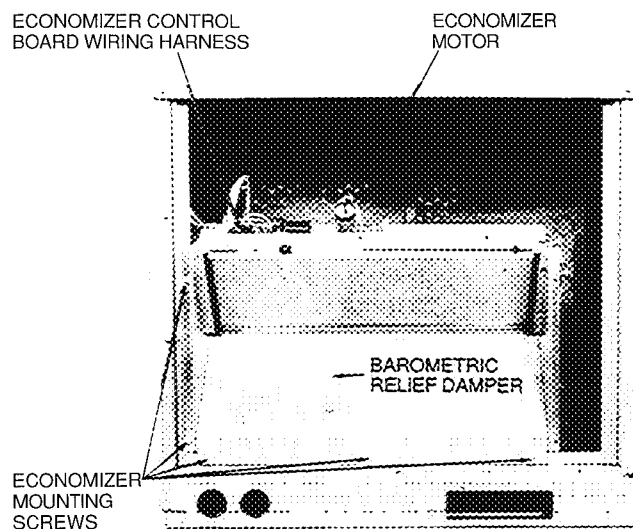

Fig. 16 – Varislide™ Economizer Installed in Unit
5. Slide economizer into unit and secure with screws. See Fig. 16.
7. Insert economizer plug into economizer harness. Remove tape from barometric relief damper. See Fig. 16.